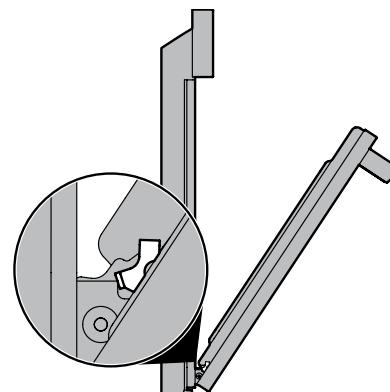

Figure 14: Removal position
3. Grasp the door by the sides, and close the door until the door frame makes contact with the unlocked hinges (Figure 14).
2. Hold the oven door at the same angle as the removal position (Figure 14). Carefully insert the hinge levers into the oven frame until you feel the hinge levers are seated into the hinge notches. The hinge arms must be fully seated into the hinge notches before the oven door can be fully opened.